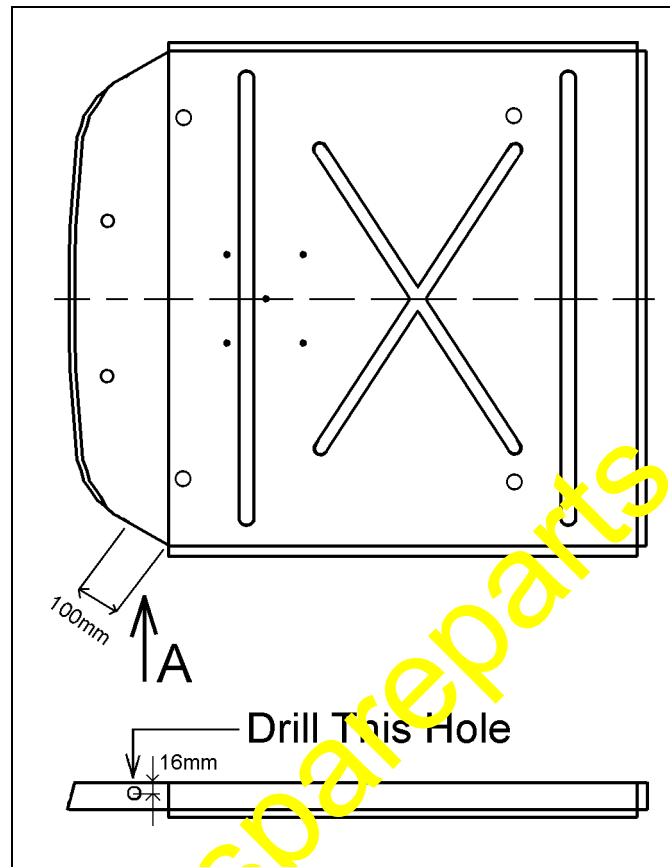

Figure 3
5. Rework the cab roof as shown in Figure 3. One hole, 15mm in diameter, must be drilled on the left and right-hand side of the cab roof.